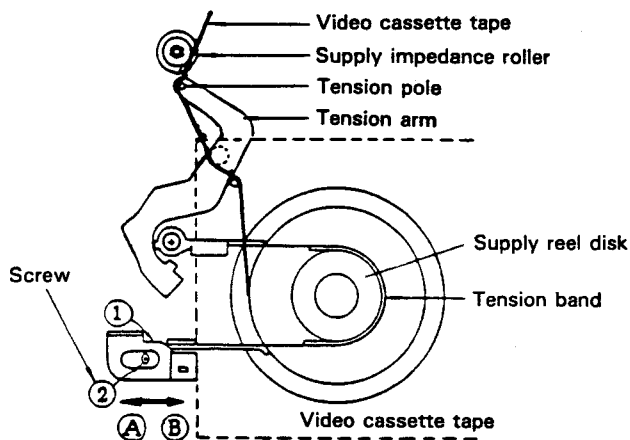

Figure 1-12.
• Position adjustment (Fig. 1-12)
1. If the tension pole is more than 1.0 mm to the right of the supply impedance roller's center, shift the tension band control bracket ① in the direction of arrow → ②, and tighten the screw ②.
2. If the tension pole is less than 0.6 mm to the right of the supply impedance roller's center, shift the tension band control bracket ① in the direction of arrow → ①, and tighten the screw ②.